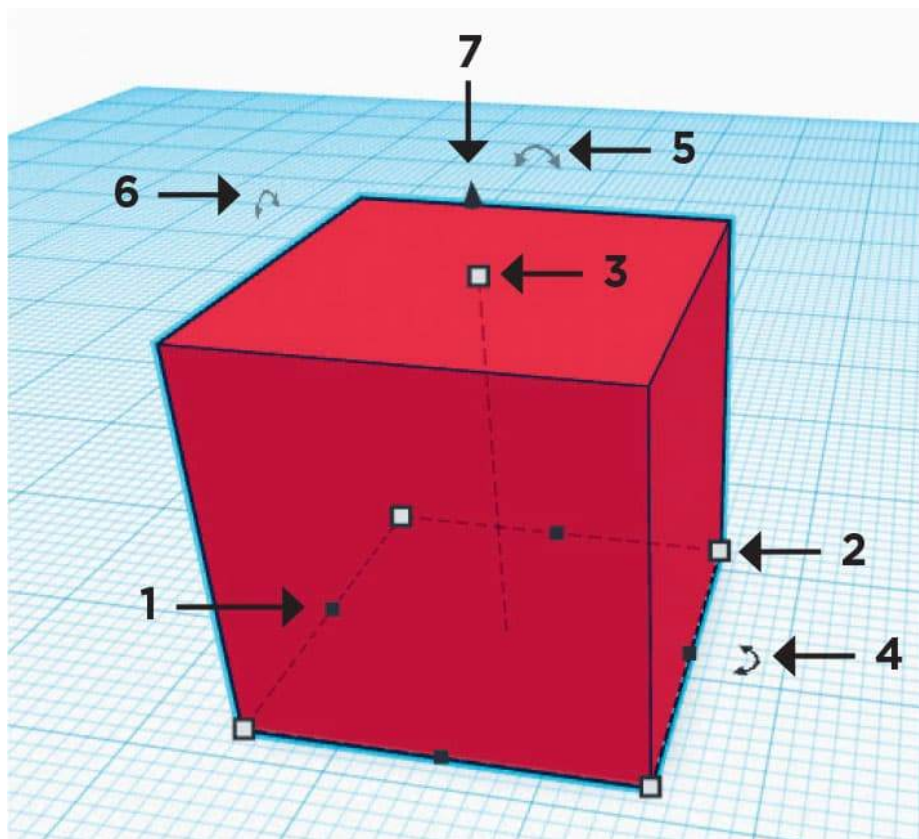

FIG. 6: Triggers help you change size, orientation, and location of the shapes on the workplane.
- There are various triggers that can be used to manipulate the size and orientation of shapes. Fig. 6 identifies some of the basic triggers. Arrow 1 identifies the black squares at the midpoint of each edge; this can be used to increase or decrease the length of a side/dimension, either by simply dragging it or by clicking on it and then entering the desired value for the side/dimension. Arrow 2 identifies the white squares at the corner of each shape. This can be used to modify the size of two dimensions simultaneously. Arrow 3 identifies the trigger that can be used to increase or decrease the height of the shape. Arrows 4, 5, and 6 are used to rotate the shape around different axes, while arrow 7 is used to move the shape vertically closer to or farther away from the workplane.